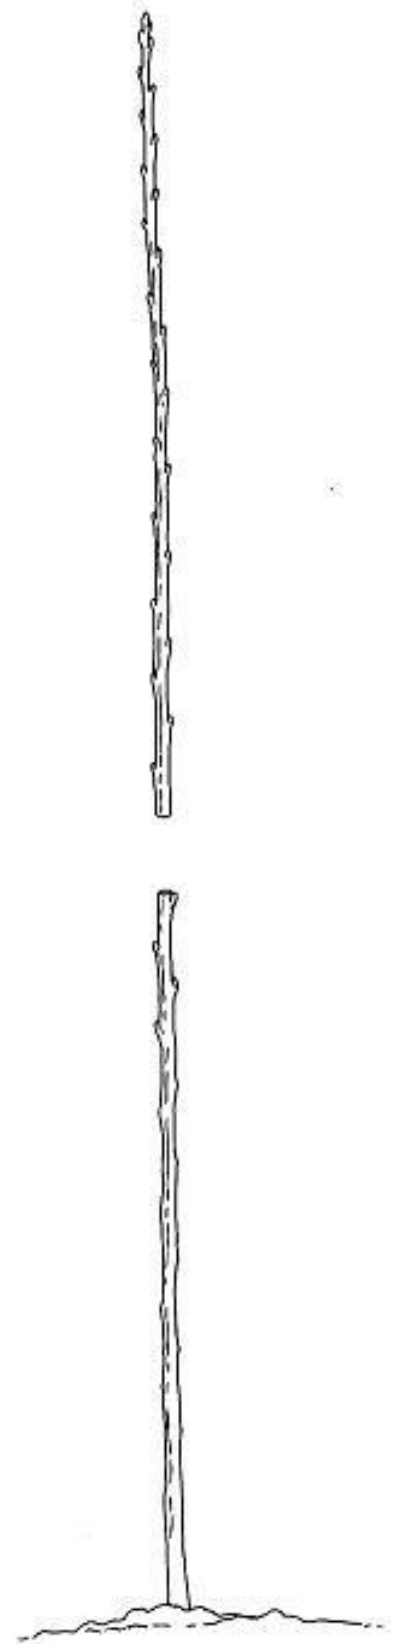

Figure 14
- Head nursery tree 18 inches above the ground (Figure 14).